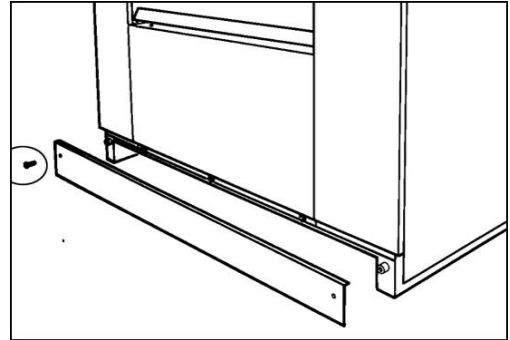

fig. 10
- Assemble the toe plate (fig. 10). This item is shipped disassembled. The fixing screws are secured in the toe plate with brackets.